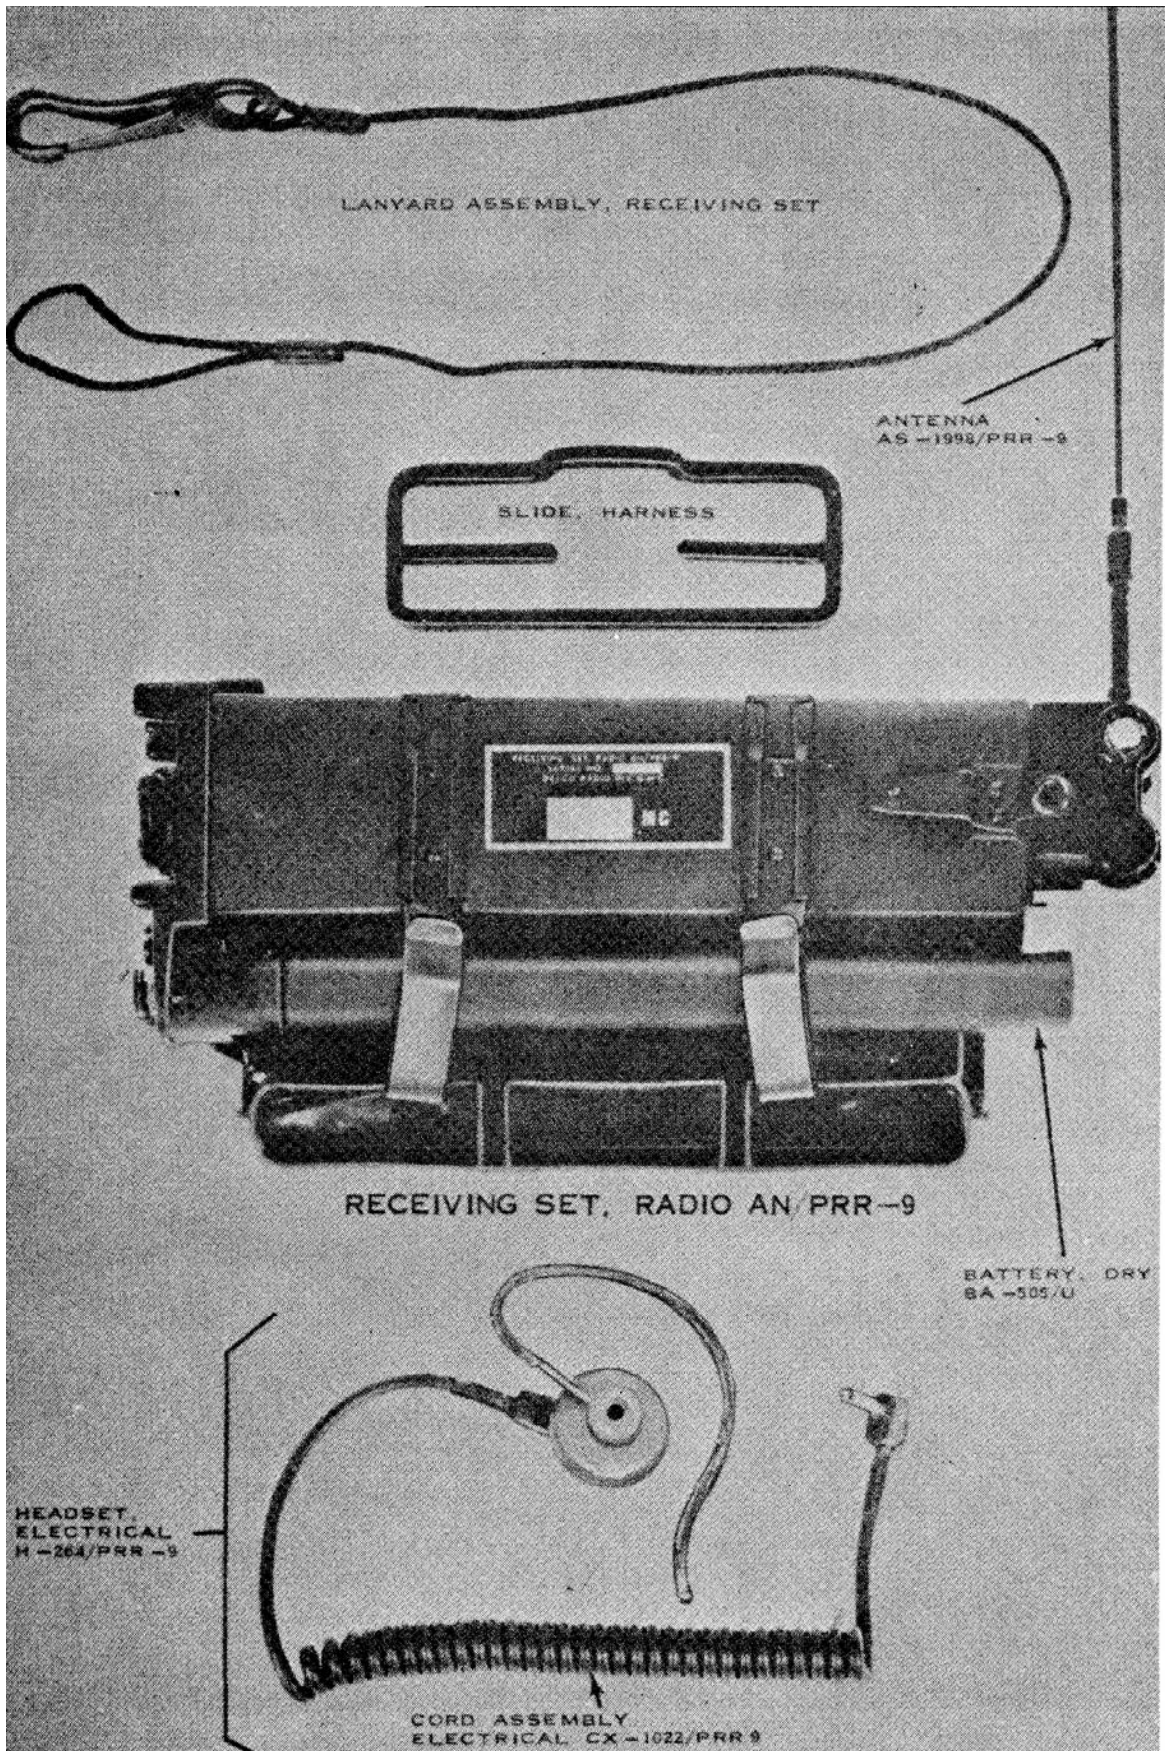

Figure 1-2. Receiving Set, Radio AN/PRR-9, components.
1-8. Description of Receiving Set, Radio AN/PRR-9 (fig. 1-2)
1-9. Minor Components of Receiving Set, Radio AN/PRR-9 (fig. 1-2)
a. Battery, Dry BA-505/U (fig. 1-2) is not supplied as part of the receiver but is required for its use. A two-conductor male connector in the receiver mates with the connector in the battery. The BA-505/U provides a nominal 5 volts.